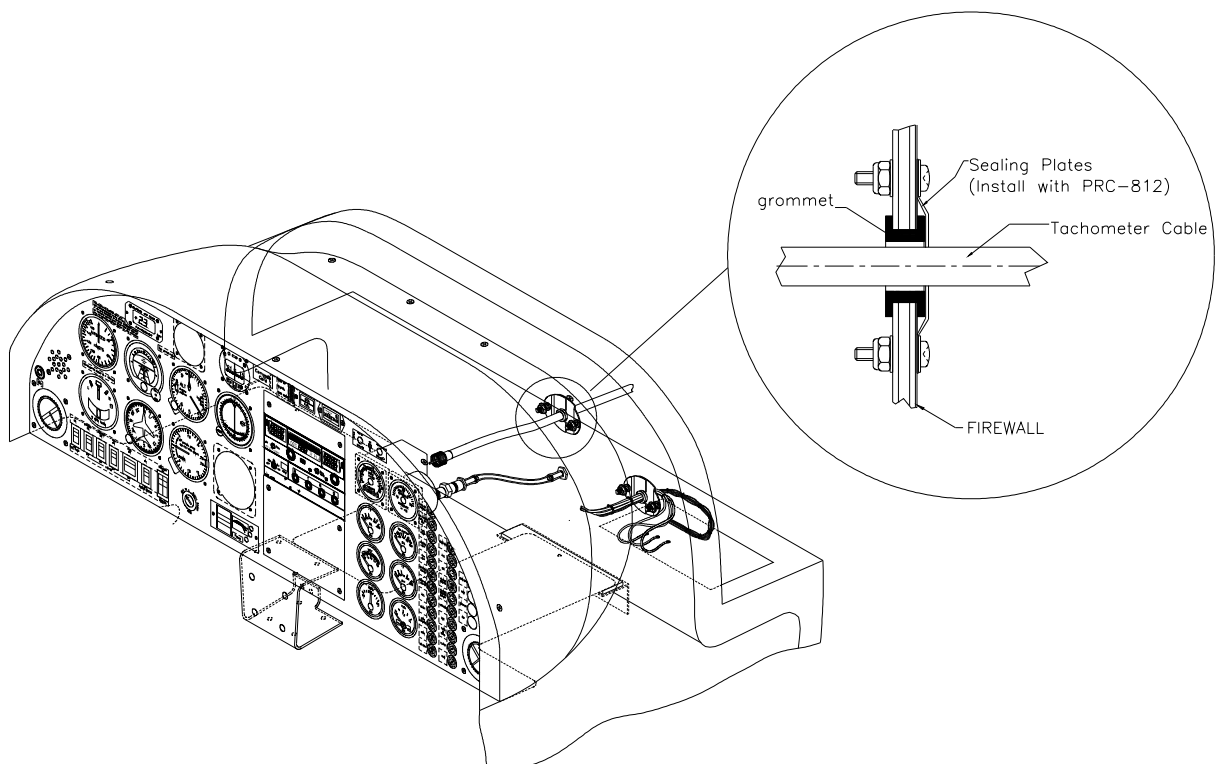

Figure 1
- 10.5.** Remove the sealing plates for the tachometer cable at the firewall and remove the tachometer cable (ref Fig. 1).
- 10.10.** Install the grommet and firewall sealing plates with the previously removed hardware and PRC 812 sealant. Refer to figure 1.
**Part B** (Electronic Rotax tachometer replacement procedure)**11. Accomplishment Instructions Refer to Figure 1**
- 11.8. Remove the blanking plate from the firewall where the tachometer cable will be routed. Clean the sealant from the firewall. Refer to Figure 1
- 11.14. Install the grommet and firewall sealing plates supplied with the kit using the removed hardware and seal with PRC 812 sealant. Refer to figure 1.